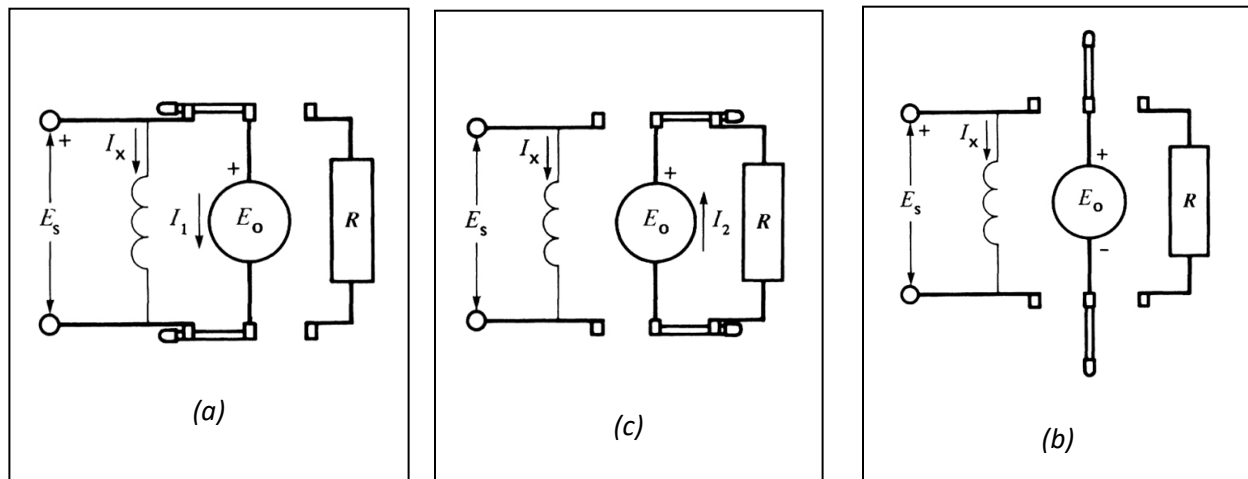

Figure 5.12: (a) Armature connected to supply (b) Armature disconnected from supply
In dynamic braking, when motor needs to be stopped, the armature is disconnected from the supply and connected to a *braking resistor*, as shown in figure 5.12
5.12(c), it starts supplying current to it. Since the direction of current is opposite to the one flowing in the armature when it was connected to the supply (figure 5.12(a)), opposite Lorentz force is applied on the armature which applies a torque opposite to the direction of rotation and it starts slowing motor down. As mentioned earlier, braking resistor value is chosen such that the initial braking torque is quite large, which starts slowing motor down quickly. As motor slows down, the induced voltage value goes down exponentially and speed of the motor also goes down exponentially until it stops.